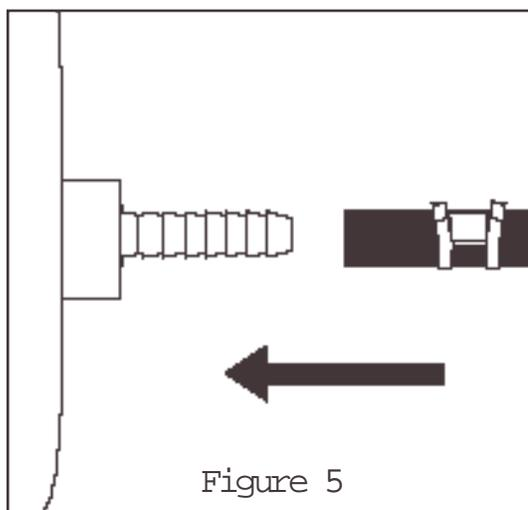

Figure 5
- G. Slide clamp onto the air line and push air line onto the stem, covering all the barbs. With pliers slide the clamp forward until it fully covers the barbed section (Figure 5).